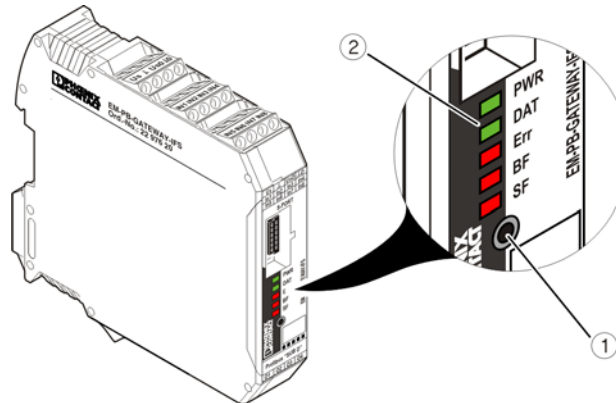

Figure 4-4 Operating and indication elements
1. Press and hold down the button 1 (Figure 4-4 "Operating and indication elements") for at least six seconds (6 s).
1. Press the button 1 (Figure 4-4 "Operating and indication elements") for 12 seconds (12 s).